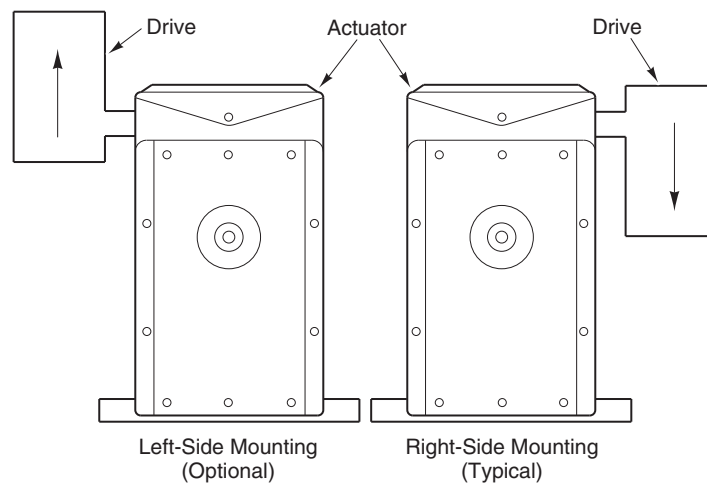
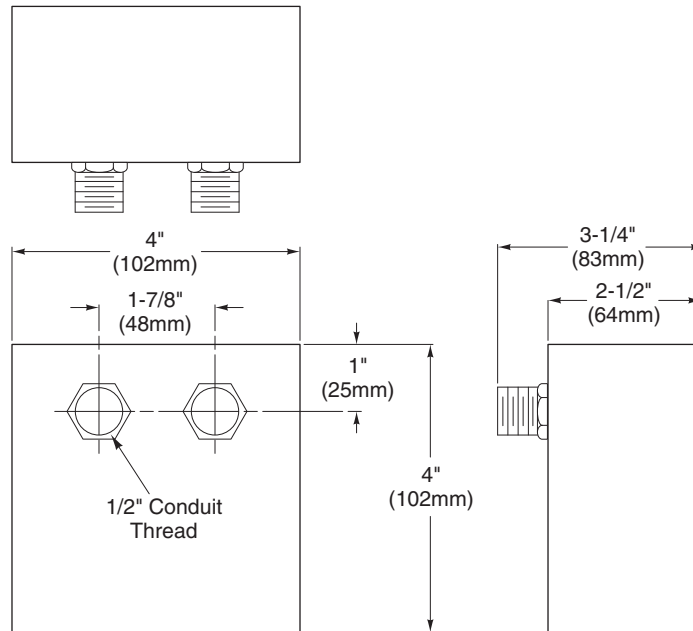

Figure-2 Mounting Position of Drive on Actuator.
Figure-5 Mounting Dimensions of CP-8301-xxx Series Electronic Actuator Drive.
1. Insert the drive's two 1/2" conduit connectors into the two 1/2" knockouts provided on the actuator casing. Refer to Figure-1, Figure-2, and Figure-5.
Caution: The power wires must always be inserted directly into the power wiring compartment of the actuator. If the optional mounting position for the drive (refer to Figure-2) is used, it is required that the wires of the drive are routed to exit through its other conduit bushing.